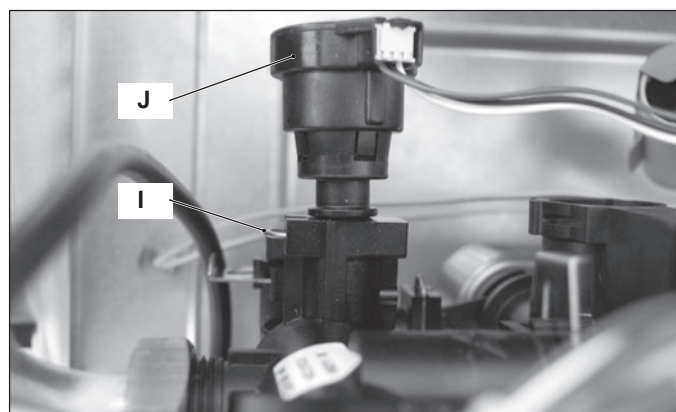

Figure 8.6
- 4 Remove the fixing spring "I" (Figure 8.6) and remove the pri-